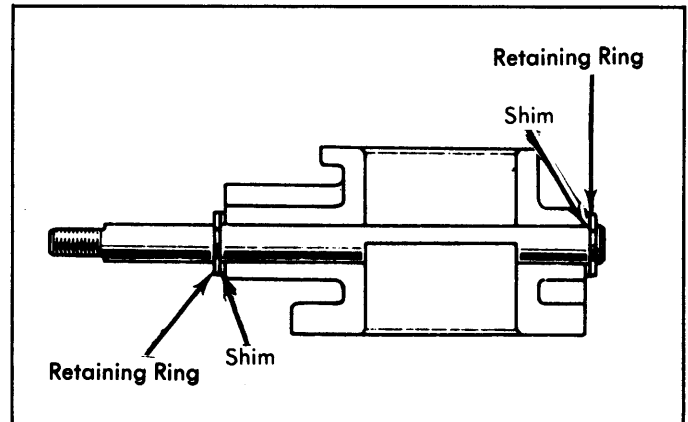

Fig. 10: Primary Throttle Valve Adjustments
- 2) When installing primary throttle valve, center throttle shaft in bore using shims on shaft. See Fig. 10. Centering is correct when shaft notch is adjusted to bore center. Peen new set screw into place.